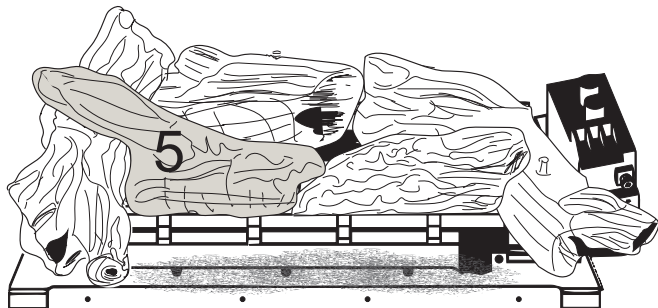

Figure 6.6 - Log #5 Placement
6. Hold log #5 with the pointed end toward the right. Place log #5 by positioning the pin locator hole on the bottom of the log over the left pin behind the grate and resting the left end of the log over the notch on log #3. Note: Logs #4 & #5 must be seated and locked into position. The ember face of logs #4 and #5 should be straight and approximately 3/8" behind the grate bar. See Figure 6.6.